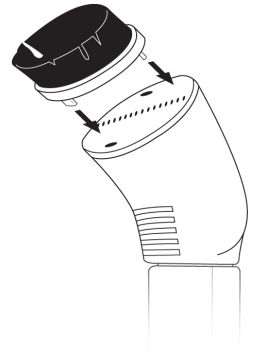

FIGURE 5
3. Press Fabric Brush firmly onto Steam Nozzle, until it fits snugly and firmly in place (FIGURE 5).